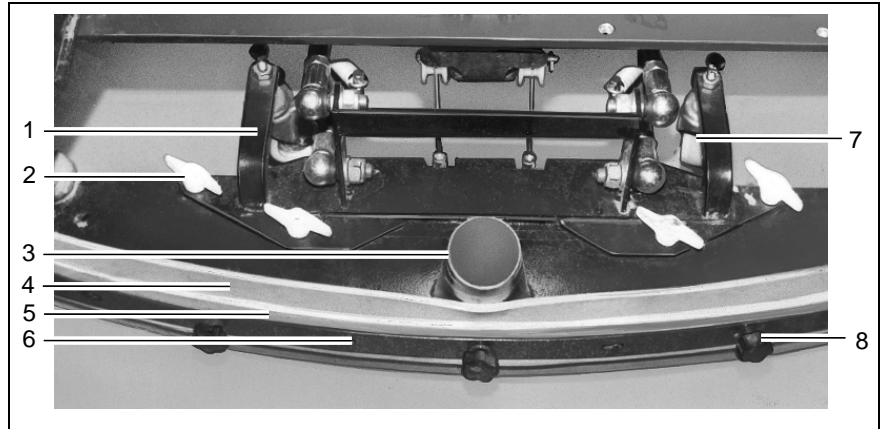

Fig. 32
5. Pull the suction hose from the connection nozzle (Fig. 32/3) of the squeegee.
6. Loosen the wing nuts (Fig. 32/2) on the holding attachment.
The sealing strips (Fig. 32/4) can be changed without the need for any tools:
2. Unscrew the knurled nuts (Fig. 32/8).
3. Remove the sealing strip, support strip and clamping rail (Fig. 32/4-6).
The squeegee stands with the sealing strips (Fig. 32/4) and support rollers (Fig. 32/7) on the ground. To increase the squeegee contact surface of the sealing strips (Fig. 32/4) on the floor, e.g. following wear of the sealing strips (Fig. 32/4), the support rollers (Fig. 32/7) must be set higher:
3. Adjust the support rollers (Fig. 32/7) on the right and left evenly:
5. Tighten the counter nuts on each support roller (Fig. 32/7)